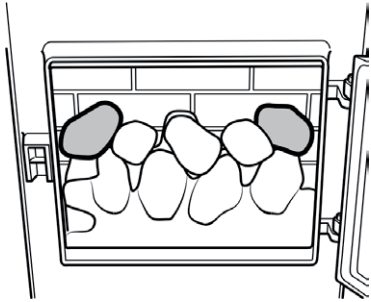

Figure 8
10. Locate the remaining two ceramic coals identified with a number '1' as in figure 8.